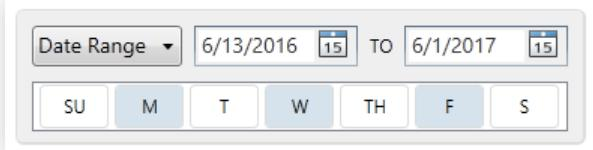

fig. 84
- **Date Range:** Set a range of dates for the show to run, using the two calendars. You can also choose days of the week to run. In fig. 84, a show is configured to run every Monday, Wednesday, and Friday between June 13, 2016 and June 1, 2017.